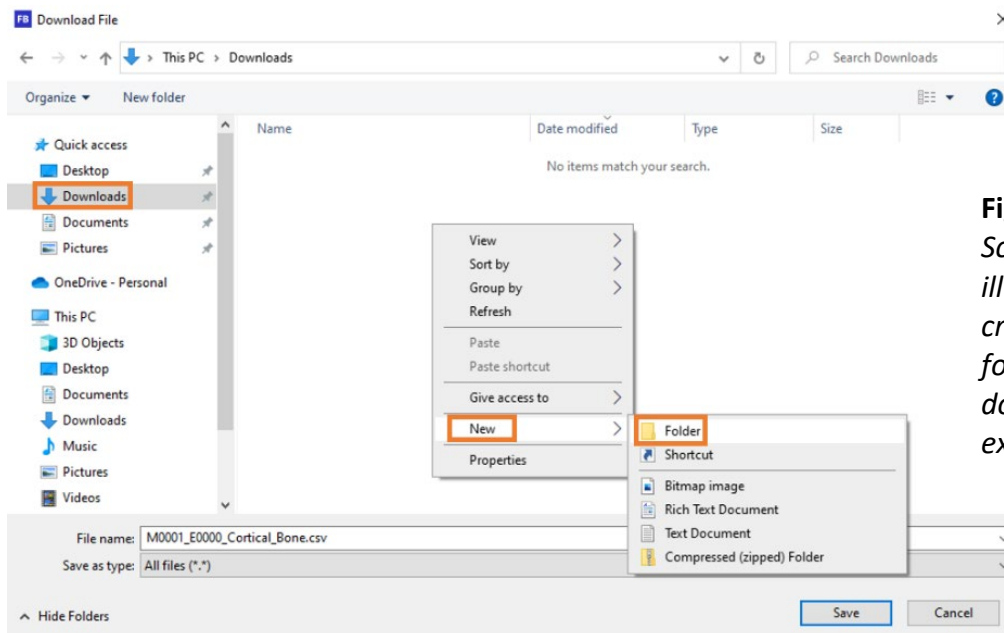

Figure 16:
6. On the left-hand side of this window, click on the "Downloads" folder. If you have multiple .csv files (or DICOMs for DICOM exporting), we recommend creating a custom folder within the "Downloads" folder to store data. To create the folder: right-click in the empty space → hover your mouse cursor over "New" → click on "Folder" → give the folder an appropriate name → save your .csv files inside it. Refer to Figure 16 below for help. ****Note: Users shall only create ONE folder per experiment to store any data.***